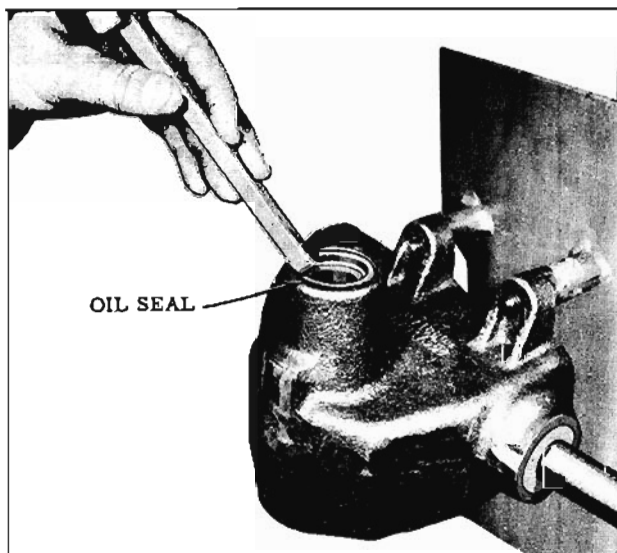

Fig. 8-13 Removing Pitman Shaft Seal
1. If pitman shaft seal ONLY is to be replaced, use a small chisel to collapse the seal so it can be lifted from the housing. (Fig. 8-13)